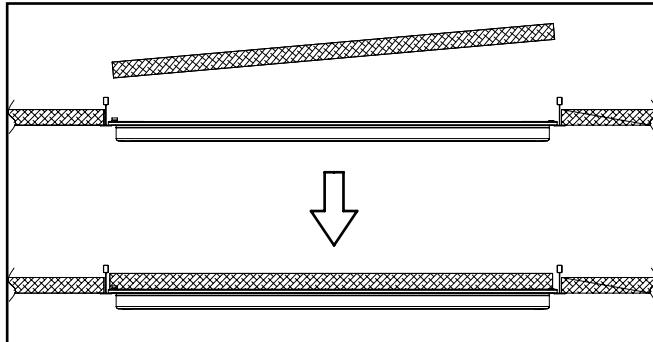

Figure 7.
8. Place tile back above light fixture. See Figure 7.